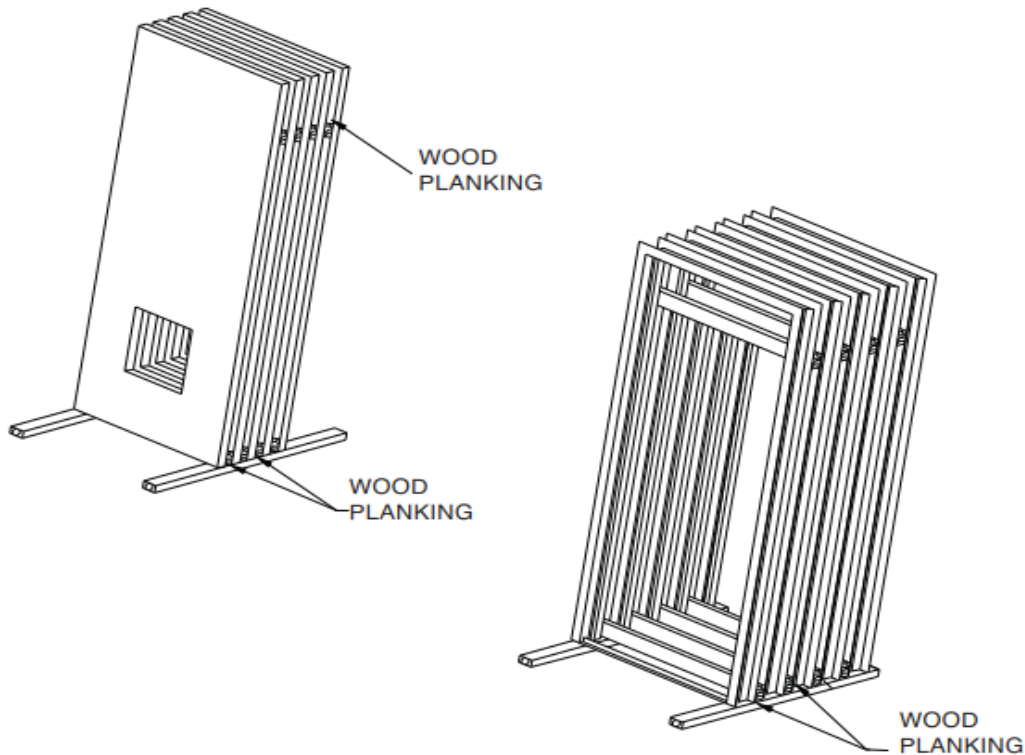

Figure 2
- B. The contractor responsible for installation shall ensure that materials are properly stored on planks or dunnage in a dry location. Doors and frames shall be stored in a vertical position and spaced by blocking. Figure 2 illustrates recommended storage positioning. Materials shall be covered to protect them from damage but in such a manner as to permit air circulation.